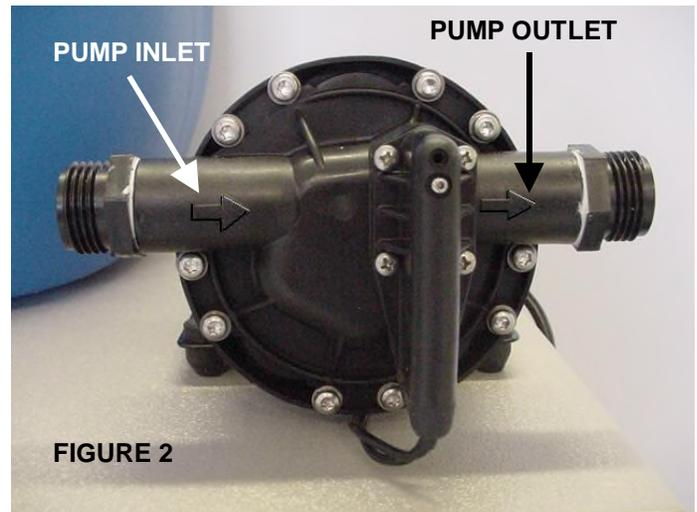

FIGURE 2
1. Connect the PUMP FEED end of the hose (with the female garden hose thread fitting) to the bottom of the CIP drum. Connect the other end of hose to the CIP Pump Inlet. FIGURE 2 shows the flow direction arrows on the CIP pump inlet and outlet.
5. Connect the RO+ Incoming Tap Water Hose to the male garden hose thread fitting on the CIP Pump Outlet (FIGURE 2).